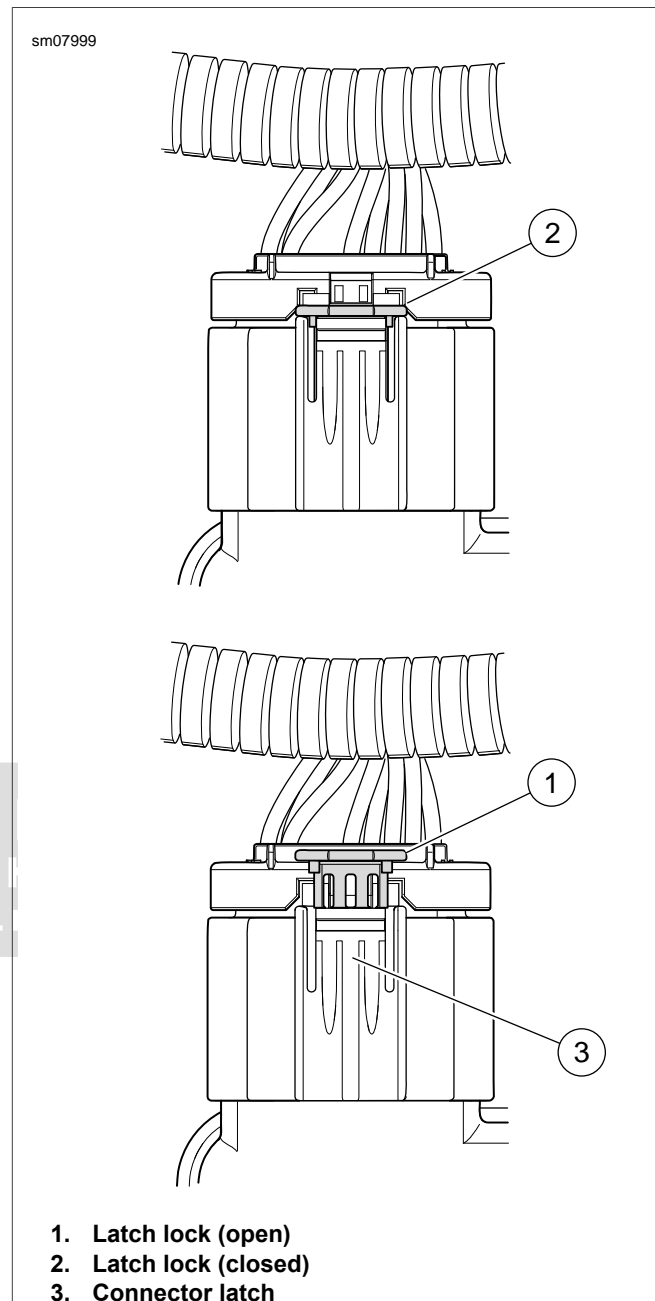

Figure A-68. Tyco GET 64 Sealed Connector Latch and Lock
See Figure A-68. **Separate:** Lift the latch lock to open (1). Press the latch (3). Pull the socket housing off the ECM.
**Join:** Align the socket housing latch with the catch on the ECM. Press housing onto ECM. Press down the latch lock to close (2).